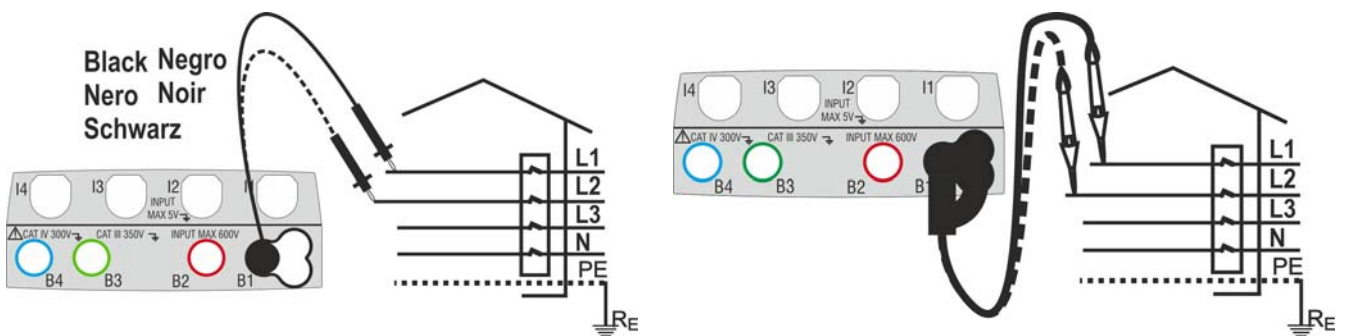
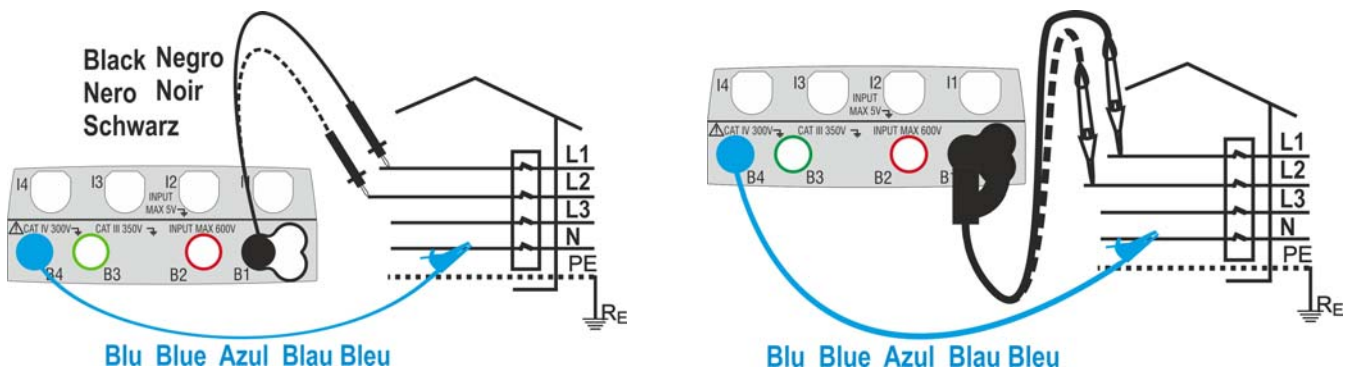

Fig. 23: Phase sequence check of 1T phases with terminal and remote lead
Fig. 24: Phase sequence check of 2T phases with terminal and remote lead
3. Insert the blue and black connectors of the single cables in the corresponding input terminals of the instrument B4, B1 (2T measurement). Insert in the free end of the cables the corresponding alligator clips or tips. It is also possible to use the remote lead by inserting its multipolar connector into the input lead B1. Connect the alligator clips, the tips or the remote lead to phase L1 and N according to Fig. 23 and Fig. 24.
Under these conditions, connect the alligator clips, the tips or the remote lead to phase L2 and N in accordance with Fig. 23 and Fig. 24.